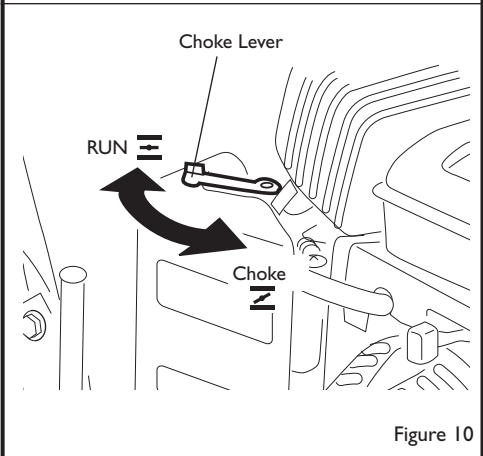

Figure 10
To start the the engine, slide the choke lever to the **CHOKE**  position. After the engine has been running for 2-5 seconds, slide the choke lever to the **RUN**  position. (See Figure 10)
6. Slide the choke to the CHOKE position. (See Figure 10)